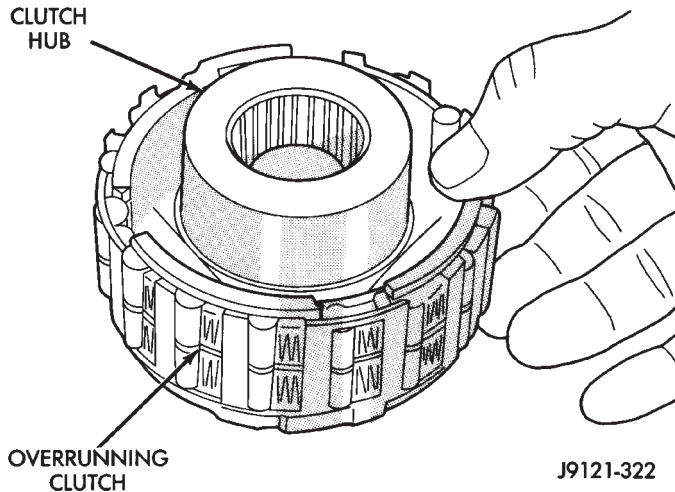

Fig. 40 Assembling Overrunning Clutch And Hub
(10) Install overrunning clutch on hub (Fig. 40). **Note that clutch only fits one way. Shoulder on clutch should seat in small recess at edge of hub.**